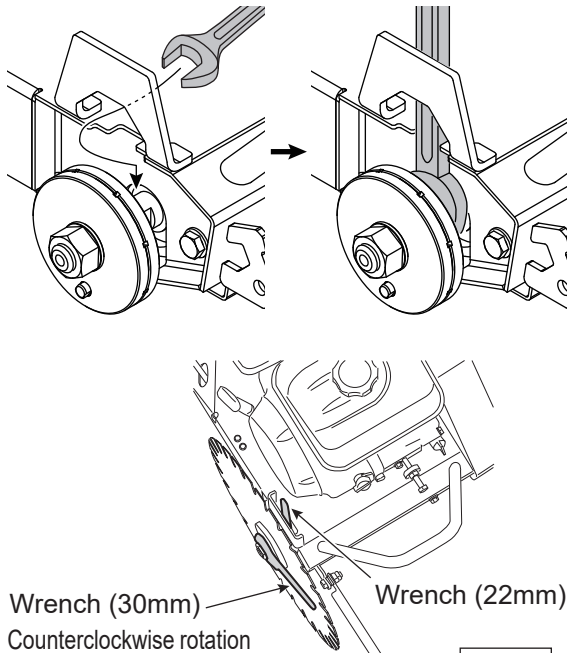

Fig.12
2. Standard accessory wrenches are used to tighten the nut. 30mm wrench is for the nut. And 22mm wrench is for fixing the arbor. (Fig.12)